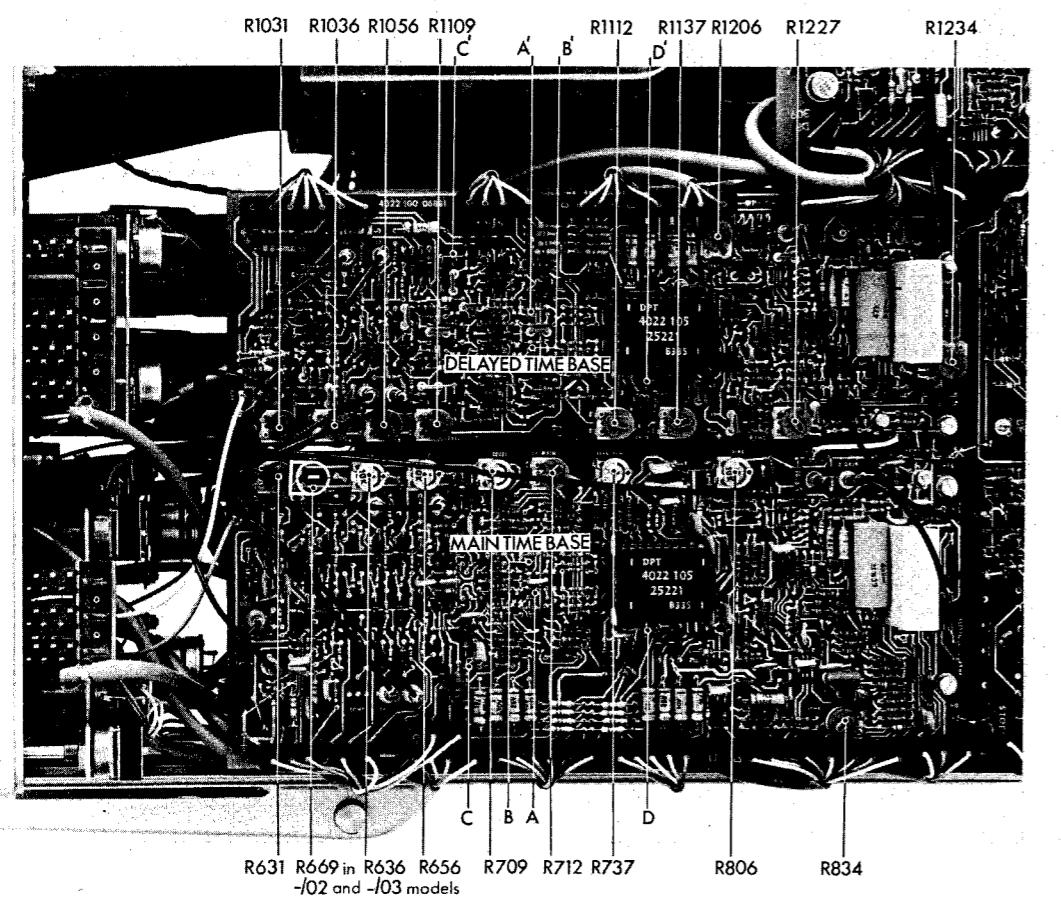
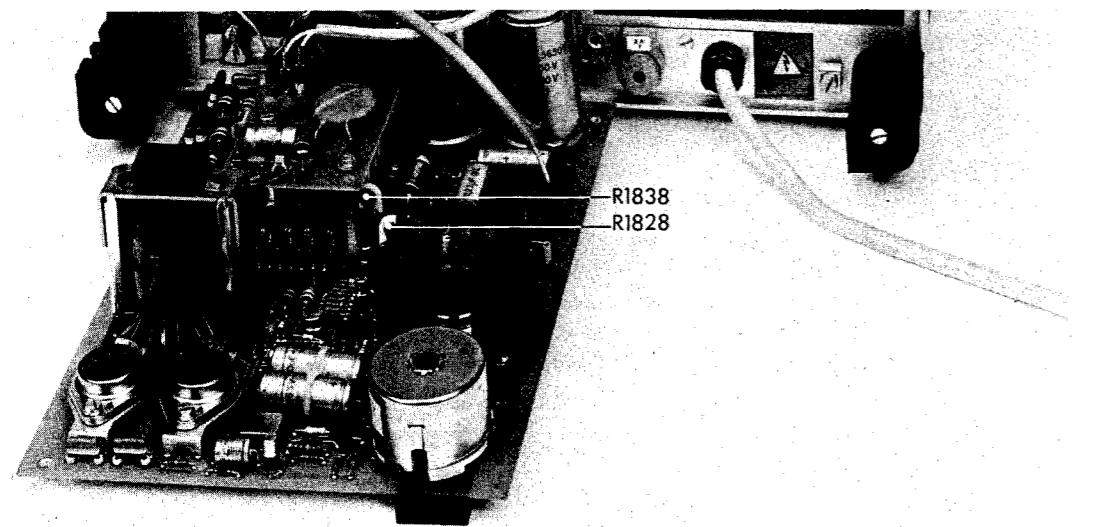

Fig. 3.22. Time-base boards with adjusting references
Fig. 3.25. Power supply with adjusting references
- Check that the trace width is 8 DIV  $\pm$  1.5 DIV; (mains voltage 220 V) if necessary, readjust potentiometer R669 on the main-time base circuit board, Fig. 3.22. (in instruments of the –/01 model, this potentiometer is located on the power supply circuit board, R1838, Fig. 3.25).
**Attention:** The power supply unit is provided with one pre-set potentiometer R1828 Fig. 3.25, which controls the d.c. output of the circuit. DO NOT READJUST THIS POTENTIOMETER UNLESS IT IS STRICTLY NECESSARY.
- Mains voltage 90 V; if necessary adjust the +15 V output voltage (+ or – 150 mV tolerance is allowed) with the aid of R1828 (Fig. 3.25).
- The emitter of TS634 is connected to test point A and the emitter of TS642 to test point B (Fig. 3.22). The signal on these test points in voltage and can be measured with the aid of an oscilloscope.
- Test point C is connected to the base of transistor TS637 (Fig. 3.22). The signal on this point is also voltage.
- Test point D (Fig. 3.22) is connected to point 4 of IC601.